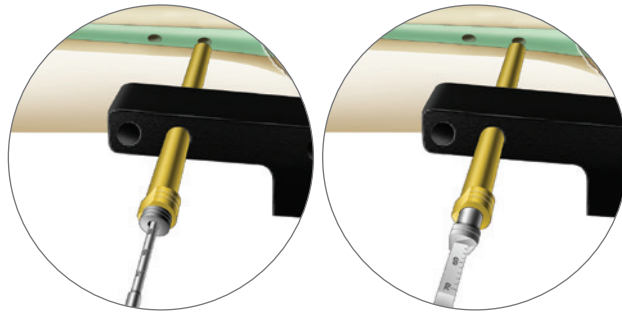

Figure 20
6. A length measurement can be taken from the calibrations on the drill against the 3.2mm Silver Inner Drill Sleeve, or the Screw Depth Gauge (71751139) can be used through the Humeral Gold Outer Drill Sleeve to measure for distal locking screws (Figure 20).